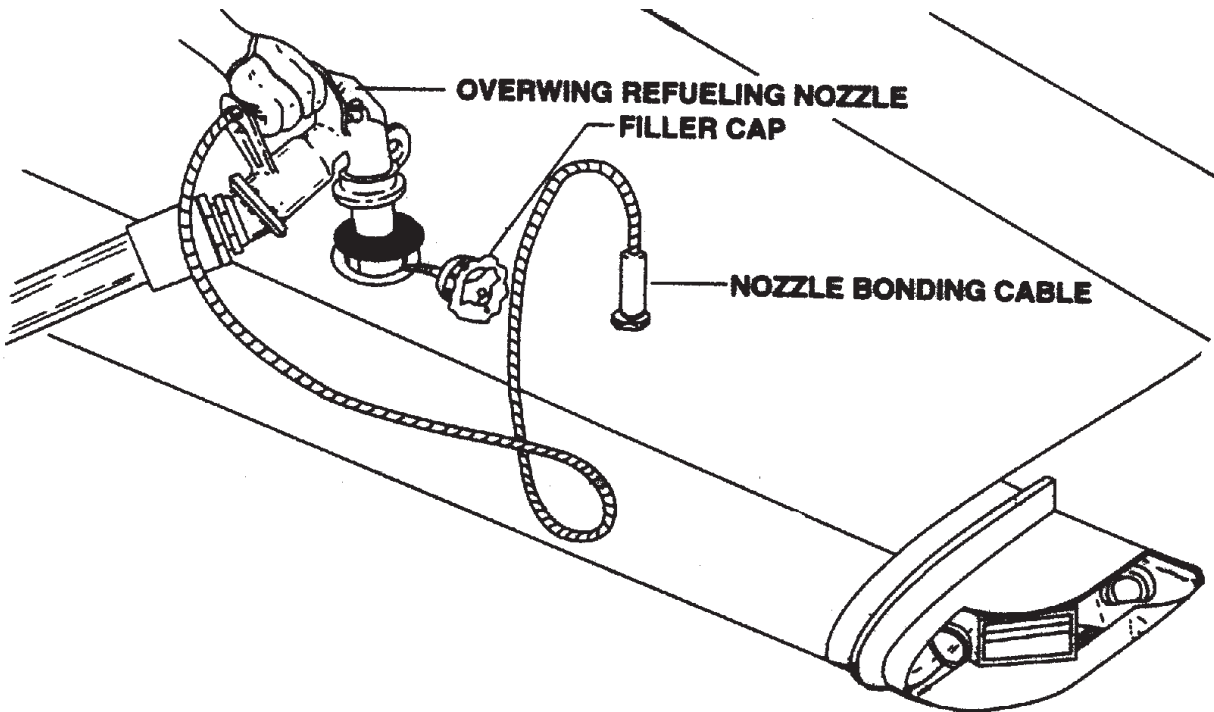

Figure 3-31.—Grounding an overwing nozzle.
2. Ground the overwing nozzle to the aircraft as shown in figure 3-31 and then remove the filler cap from the aircraft.
3. Ground the overwing nozzle to the aircraft (see fig. 3-31) and then remove the filler cap from the aircraft.